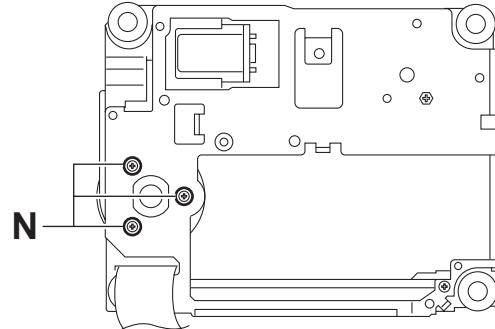

Fig.16
- (4) From the bottom side of the DVD traverse mechanism assembly, remove the three screws **N** attaching the spindle motor board. (See Fig.16.)